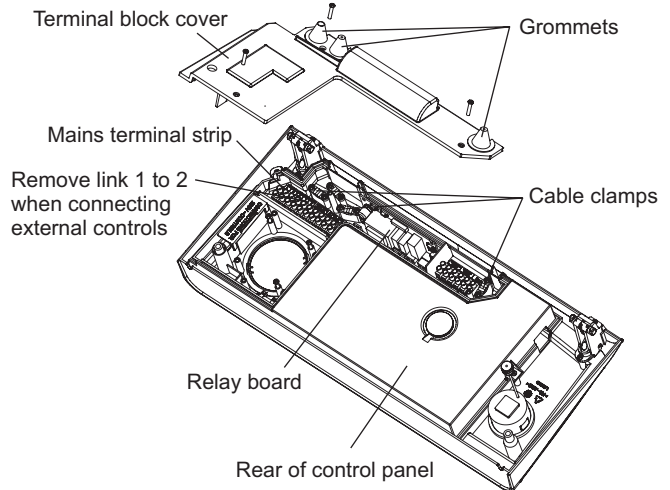

Fig. 23
4.10 CONNECT THE MAINS SUPPLY - Fig. 23
Remove the three screws securing the terminal block cover from the back of the control box (see Fig. 23). Pass the mains supply cable through the cable clamp and connect as follows:- Brown to L, Blue to N and Green/Yellow to \perp . Ensure correct polarity.